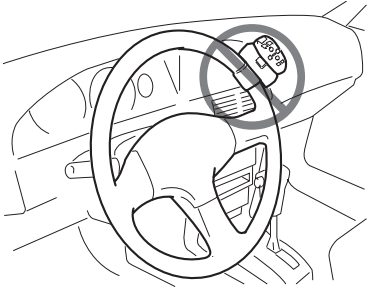

Fig. 15
- Do not attach this unit to the outer circumference of the steering wheel. Otherwise, it disturbs driving stability, causing a traffic accident. Always attach this unit to the inner circumference of the steering wheel as shown. (Fig. 15)